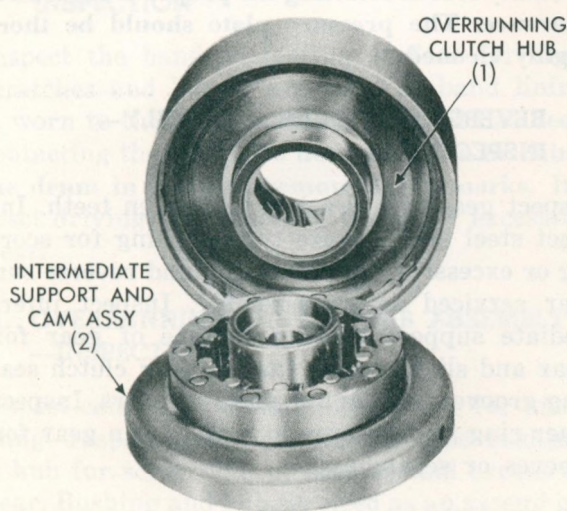

Fig. 108—Removal and Installation of Intermediate Support and Cam Assembly from Overrunning Clutch Hub
Install fixture, Tool C-3527, in intermediate support and cam assembly, as shown in Figure 107. Remove intermediate support and cam assembly from overrunning clutch hub (Fig. 108). Using a screw driver, remove snap ring (D) from low and reverse band drum assembly